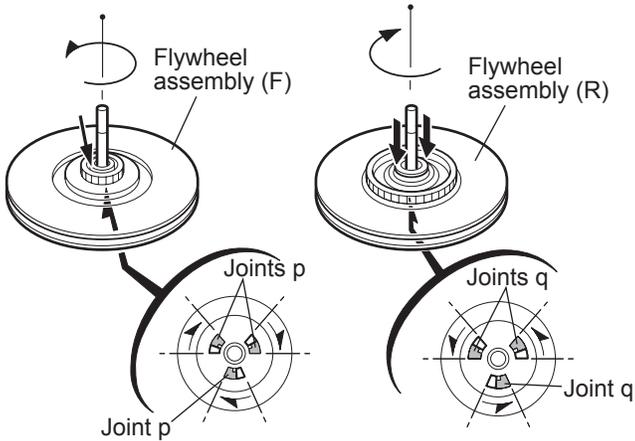

Fig.19
**3.3.10 Disassembling the flywheel assembly (F)**
**(See Fig.19 and 20)**
- (1) Push and turn counterclockwise the spring holder (F) to release the three joints p on the bottom of the flywheel.
- (2) The spring holder (F), the TU spring and the friction gear play come off.
- (3) Remove the polywasher and felt.
**3.3.11 Disassembling the flywheel assembly (R)**
- (1) Push and turn clockwise the spring holder (R) to release the three joints q on the bottom of the flywheel.
- (2) The spring holder (R), the FF spring and the friction gear FF come off.
- (3) Remove the polywasher and the felt.